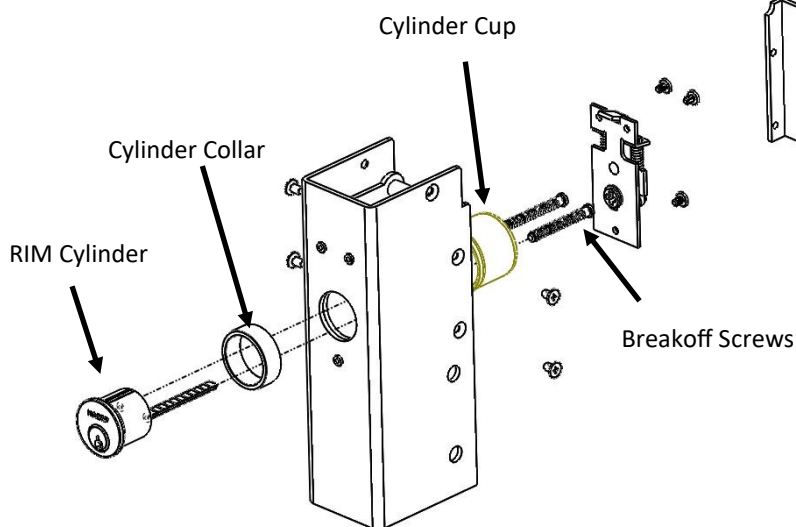

Figure 3
- C. Slide Cylinder Collar onto RIM Cylinder body. (Figure 3)
- D. Align the Cylinder Tailpiece with the Cylinder Cup Tailpiece Guide Housing. Slide the Cylinder Cup over the RIM Cylinder. Install the Breakoff Screws that came with the RIM Cylinder. Break off the screws to the appropriate length to ensure that the Cylinder Cup tightly holds the RIM Cylinder to the Top Fitting. Be careful not to overtightened the screws to the point that they restrict RIM Cylinder Operation. (Figure 3)